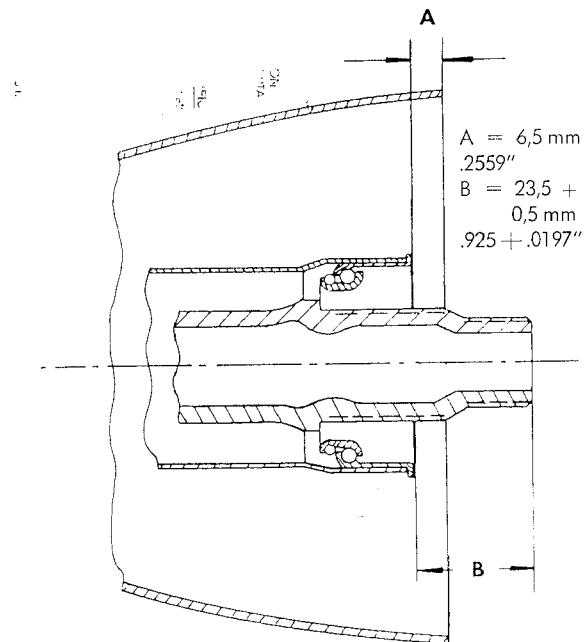

Fig. 75
3. Insert tube until the steering column projects $.925" + .0197"$ ($23.5 + 0.5$ mm) beyond the upper edge of the steering shaft bearing installed in the tube (see fig. 75)